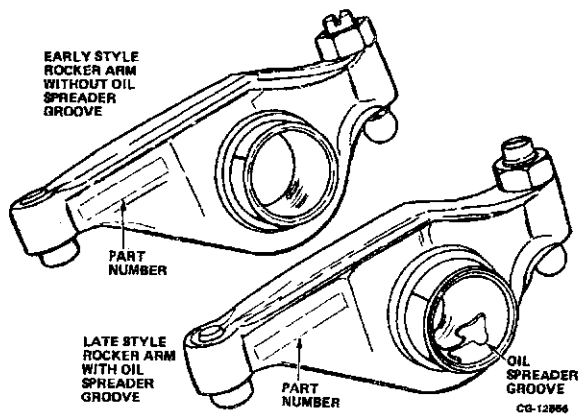

Figure 5.7. Rocker Arm Identification
**NOTE:** Later production engines have an oil spreader groove on the rocker arm (located opposite the oil holes). Refer to Figure 5.7. Early style rocker arms (without oil spreader groove) and late style rocker arms (with oil spreader groove) may be intermixed on DT/DTA-360 Diesel Engines.